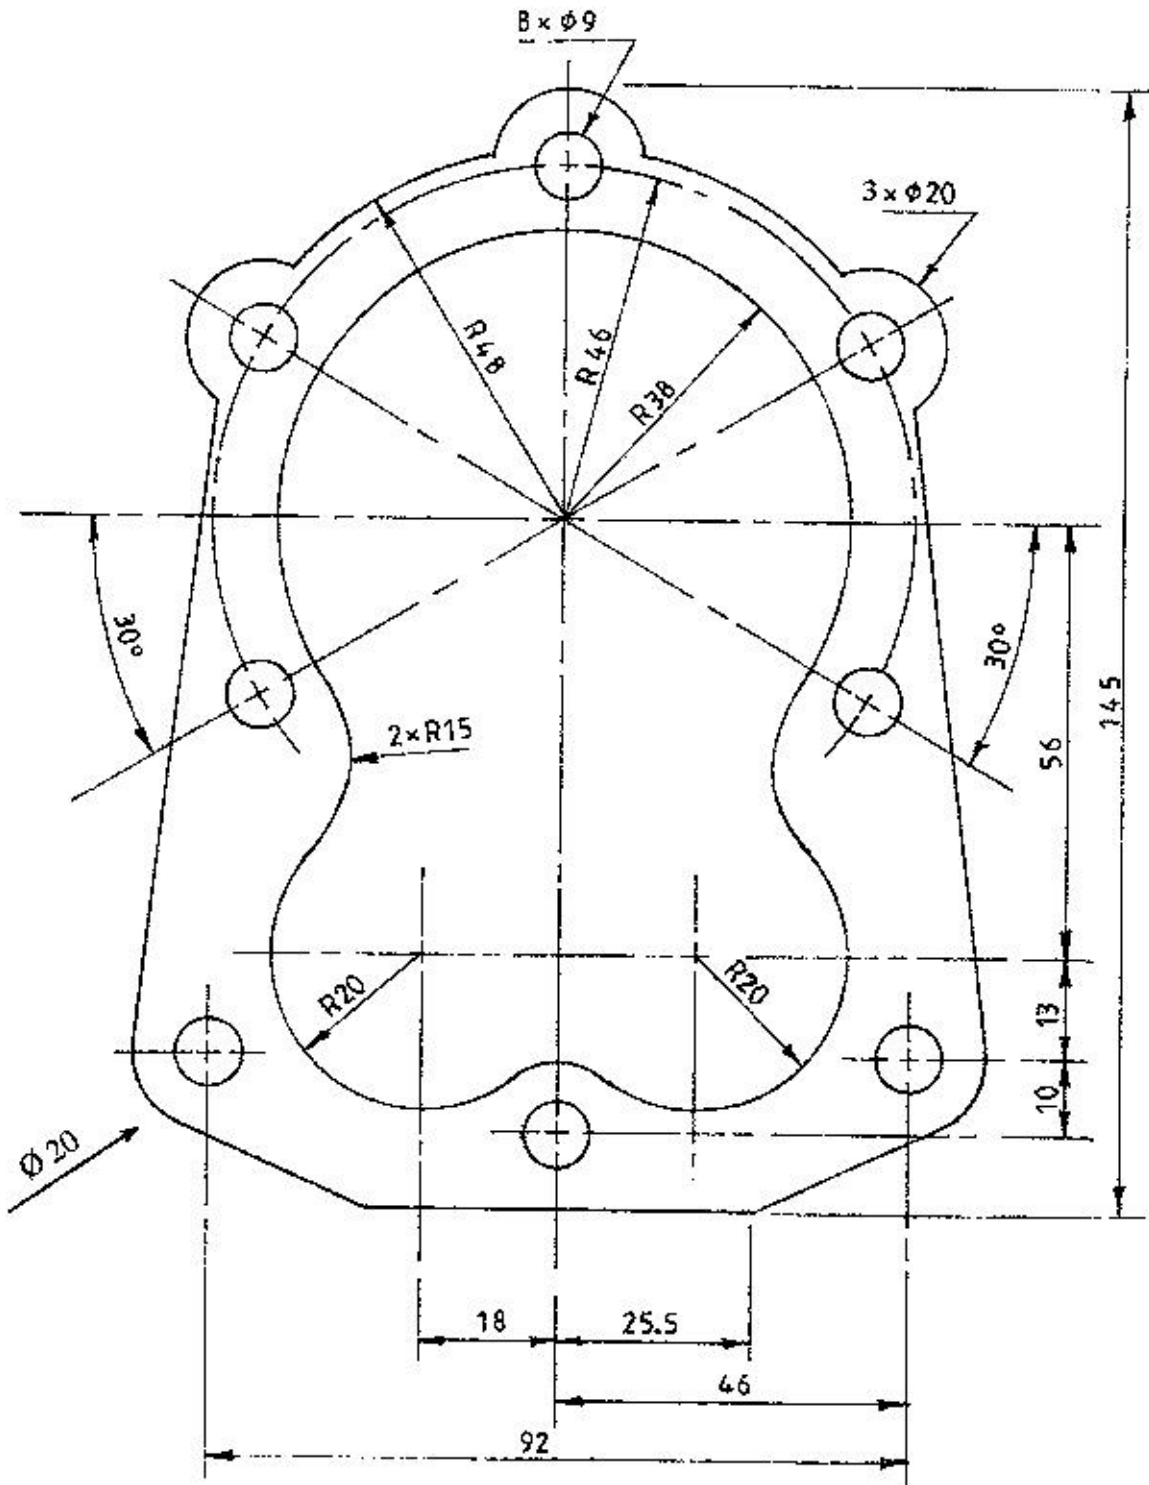

Fig. 4
5. Draw a single cylinder gasket shown in Figure 4. Include six major dimensions.